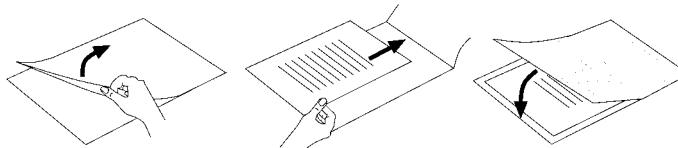

Fig. 2
- Make certain that you use only one pouch for laminating. First flip it up, as shown in Fig. 2.